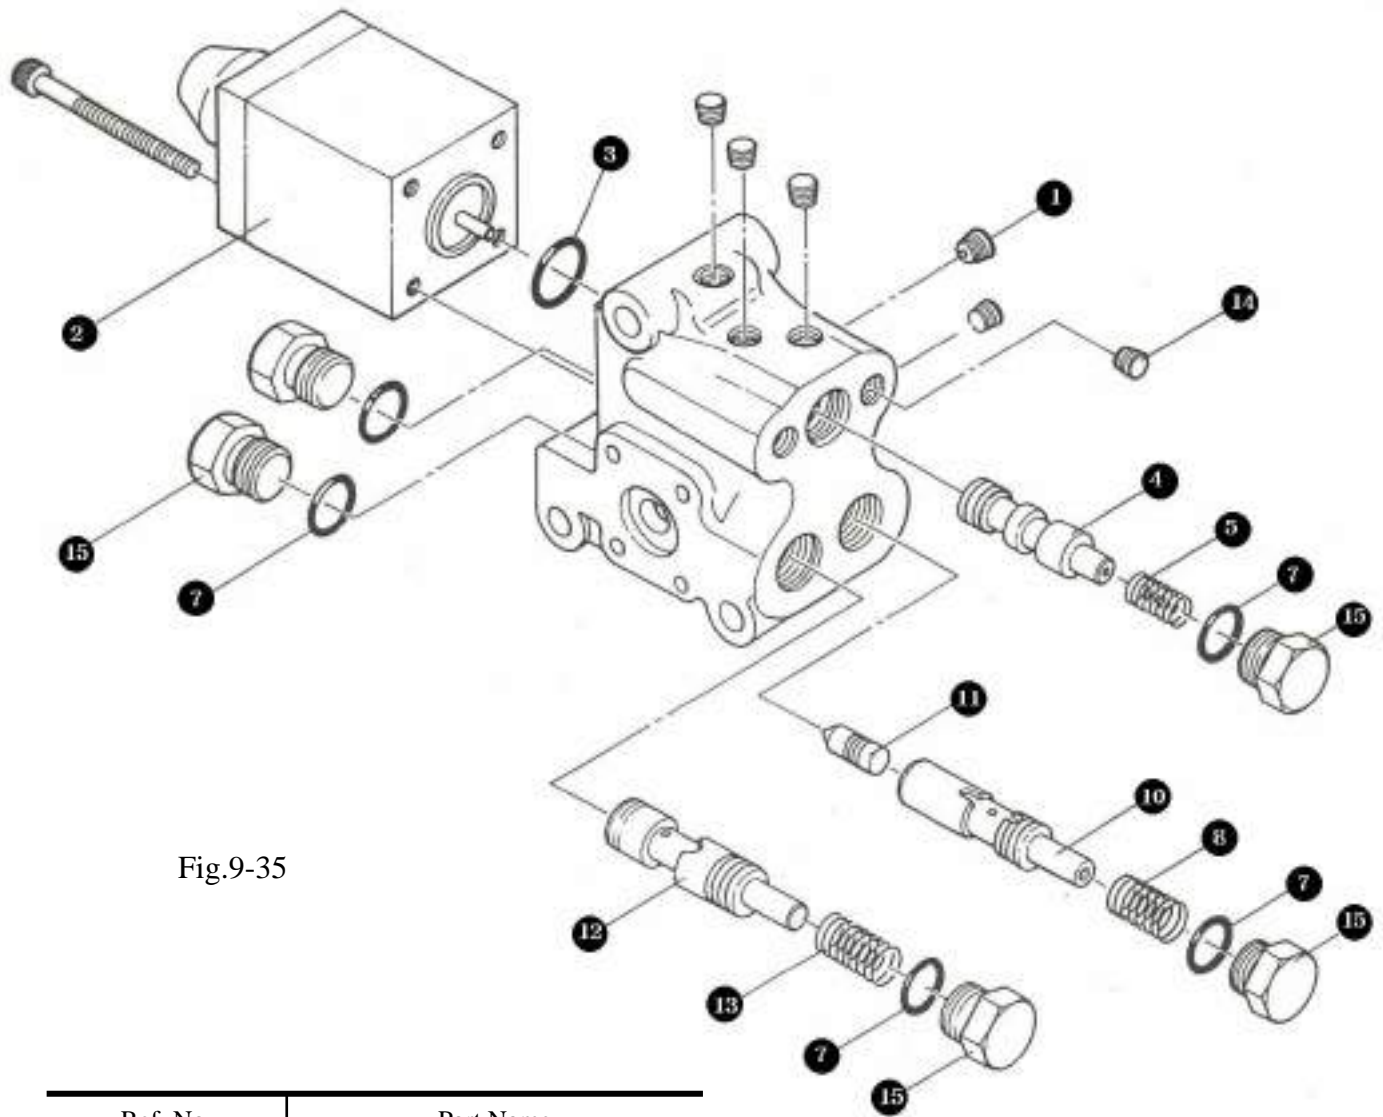
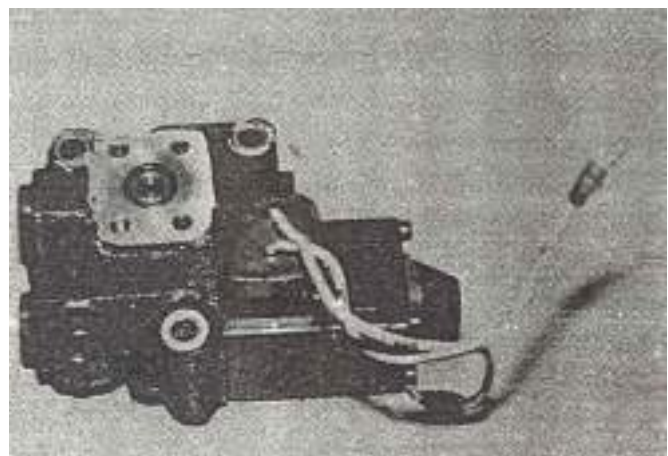

Fig.9-35
Fig.9-36
- Each part should be reinstalled correctly by referring to fig.9-35 and fig 9-36.